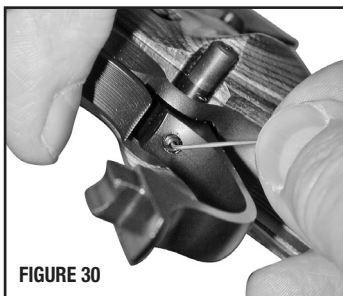

FIGURE 30
• Insert a hex wrench into the socket set screw and rotate it clockwise to increase trigger travel and counterclockwise to decrease trigger travel (FIGURE 30). Close trigger guard.